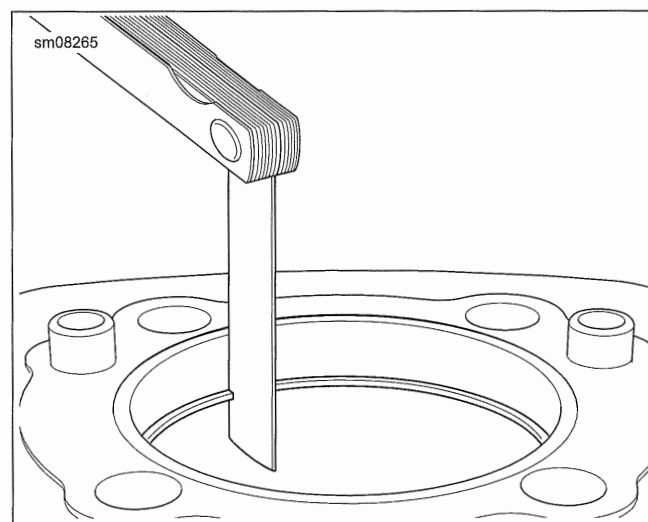

Figure 4-44. Measuring Ring Gap
1. See Figure 4-44. Check ring end gap of each ring before installing on piston.